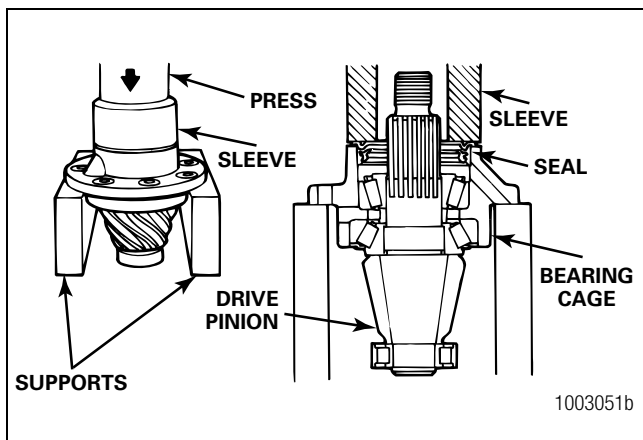

Figure 5.20
- C. Press the seal into the bearing cage. The seal flange must be flat against the top of the bearing cage. Use a sleeve or seal driver of the correct size that fits against the metal seal flange. The diameter of the sleeve or driver must be larger than the flange diameter. Figure 5.20.